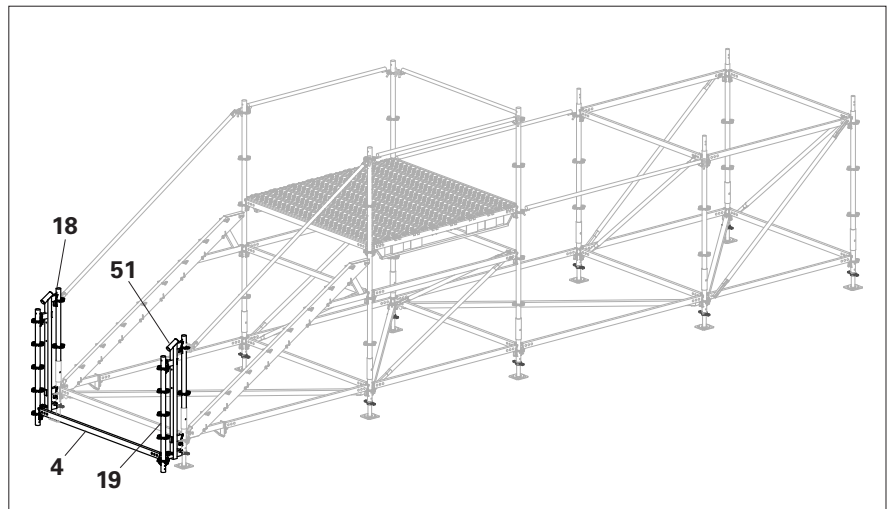

Fig. C1.07
6. Brace Top Standards UVH-2 125 (**19**) with Horizontal Ledger UH-2 200 (**4**). (Fig. C1.07)